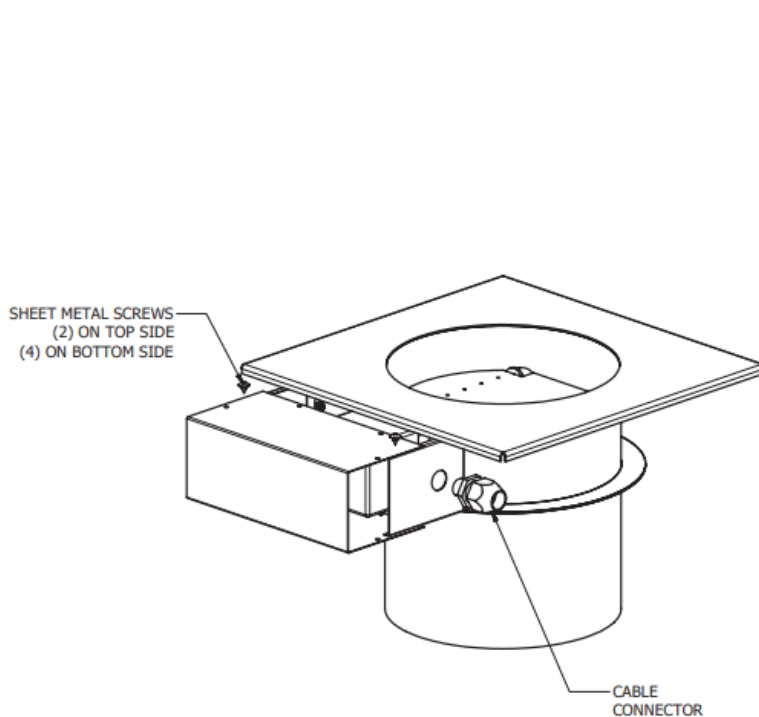
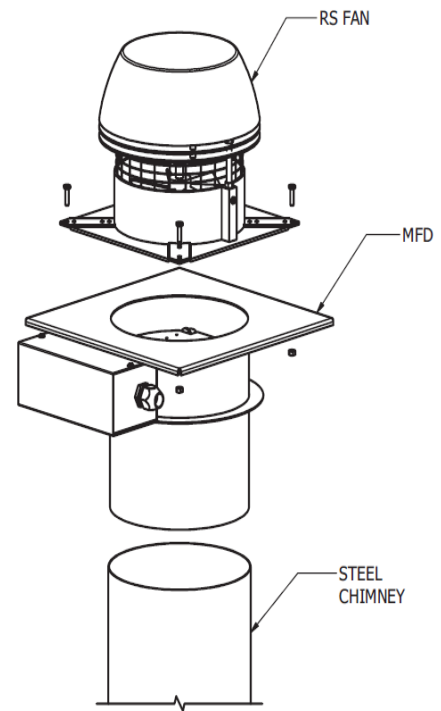

FIGURE 30
FIGURE 31
- 1) Before installing the MFD on the chimney, a power cable should be wired to the actuator and the actuator cover should be secured (**Figure 30**).
- 3) Use (6) of the included sheet metal screws to secure the actuator cover to the MFD. Once secure, apply a bead of silicone around the seams of the cover.
- 4) Mount the MFD outdoors at the top of the steel chimney run. Slide the collar of the MFD into the steel chimney until the damper rests on the stop flange. Sheet metal screws may be installed around the collar into the chimney for additional support (**Figure 31**).